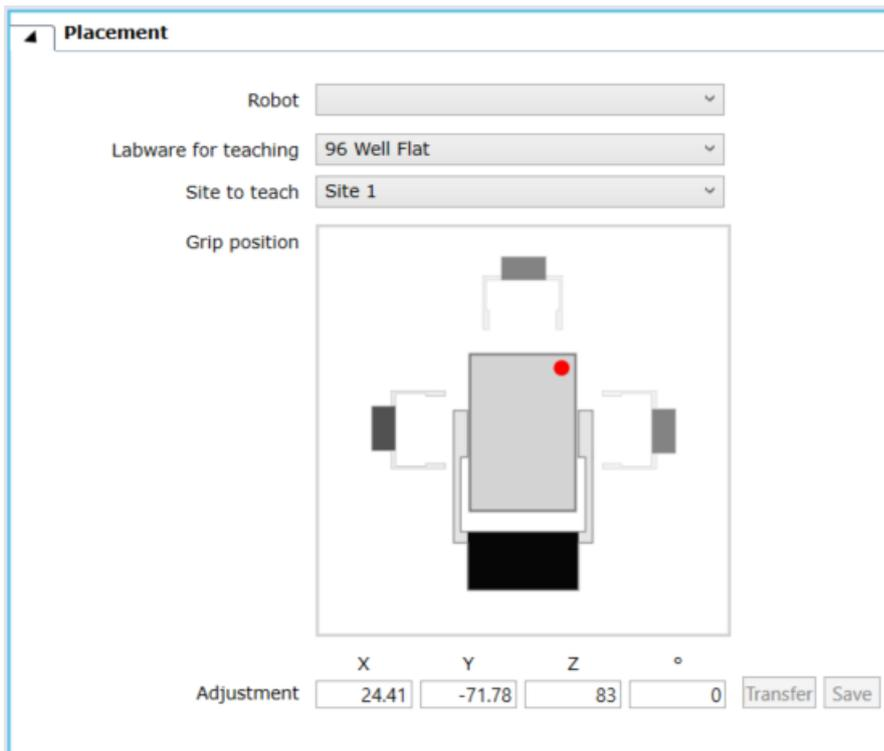

Fig. 1. Non-grid-based devices are taught using the Placement section of the device carrier definition. These values are stored on the instrument.
1. By adding a device to the worktable and saving the Adjustment values in the Placement tab of the carrier definition. See also Fig. 1. Below.